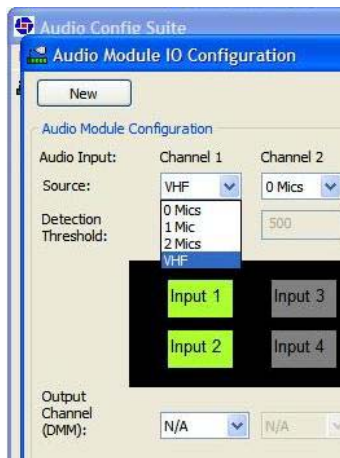

Figure 8-19 - Selecting Channel Source
STEP 1: In the Source drop-down menu (Figure 8-19 - Selecting Channel Source, shows the **Source** pull-down selection for Channel 1 being (normally) chosen as **VHF**) select the types of Audio Inputs connected to each audio input channel.